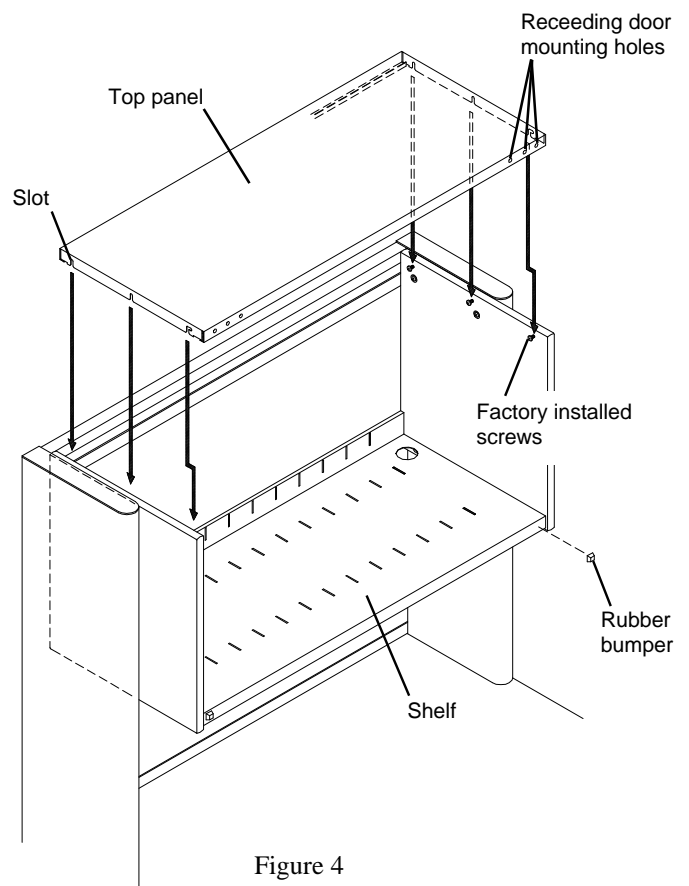

Figure 4
1. Be sure the three screws along the top edge of each End Panel are backed out 1/8" as shown in **Figure 4**.
4. Apply the **Rubber Bumpers** to each end of the **Shelf** as shown in **Figure 4**.